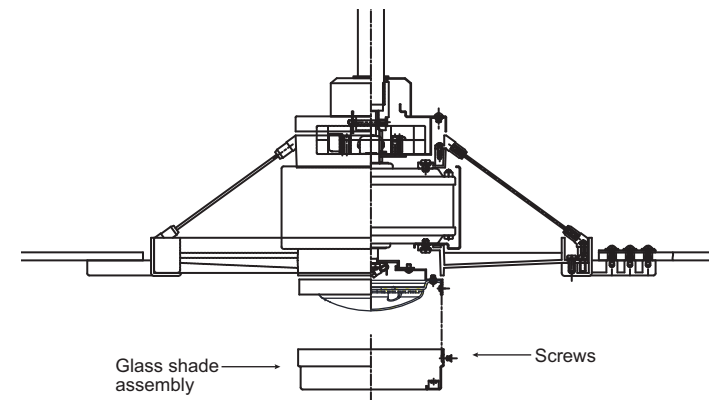

Fig. 18
Step 4. Raise the glass shade against the light plate and Secure by tightening all three screws. (Fig. 18)